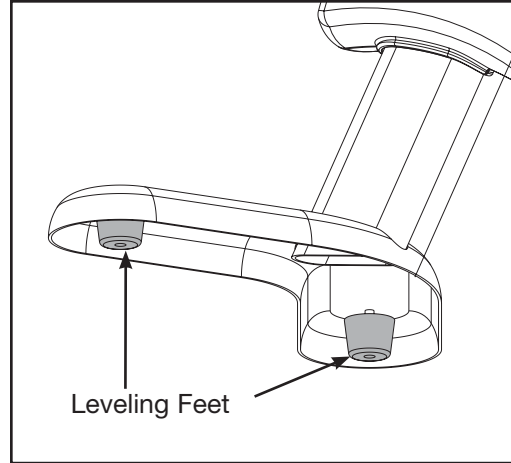

Figure 9
- C. Locate the leveling feet at the rear of the unit. See Figure 9.